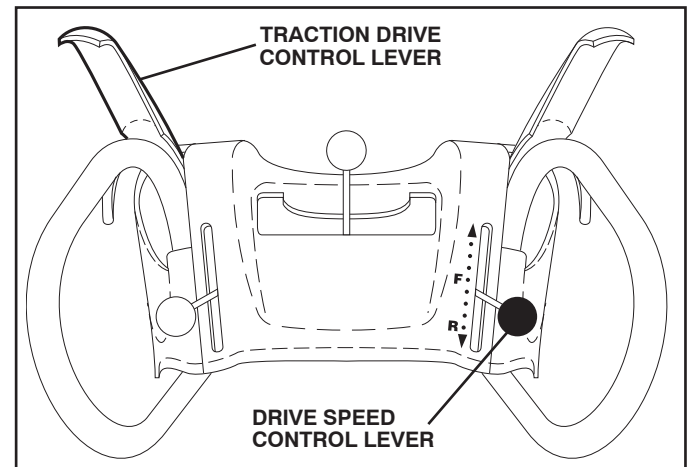

FIG. 16
**TO MOVE FORWARD AND BACKWARD (See Fig. 16)**